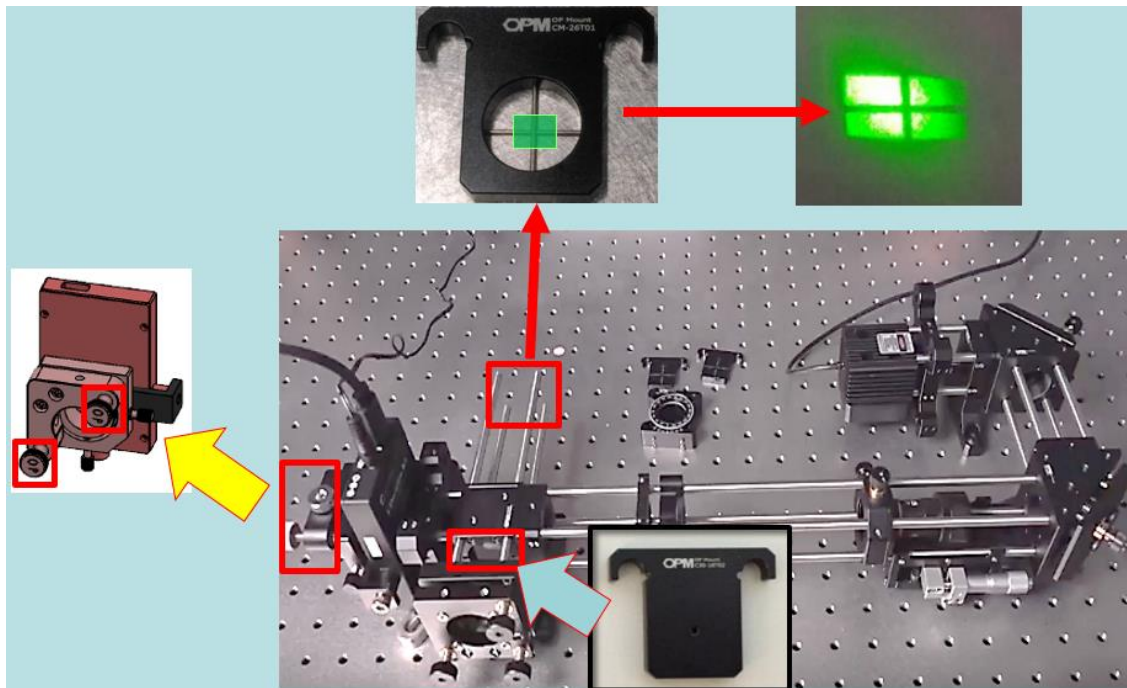

Figure 2
3. Adjust 2 screws behind SLM until the dark cross is in the center of the rectangle as shown in Figure 2.